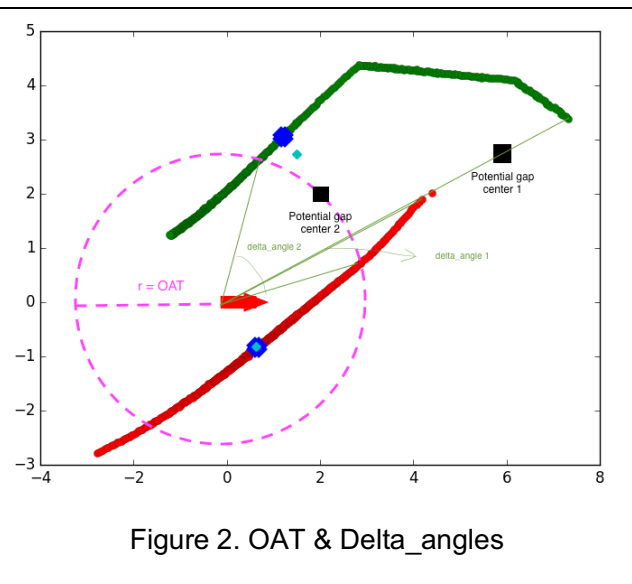

Figure 2. OAT & Delta_angles
4. Find the 2 characterizing points of each gap & save them to a customized message type gap. The widest gap is chosen using the product of the euclidean distance between the 2 characterizing points and the `delta_angle` of the gap. Notice that we've added another constraint to ensure the gap `delta_angle` is > 0.5 rad, in order to prevent situations of sharp turns where the gap identified might be on the other side of the turn. If we choose the center of that gap, the car might crash into the inner wall of the track. (Figure 2)